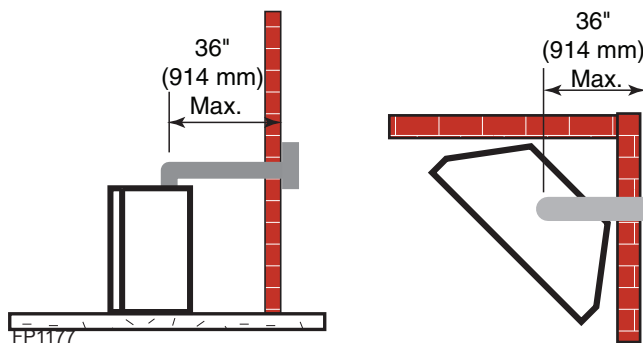

Figure 21 -
- If a 90° elbow is fitted directly on the top of the fireplace, the maximum horizontal vent run before the termination or a vertical rise is 36" (914 mm). *Figure 21*